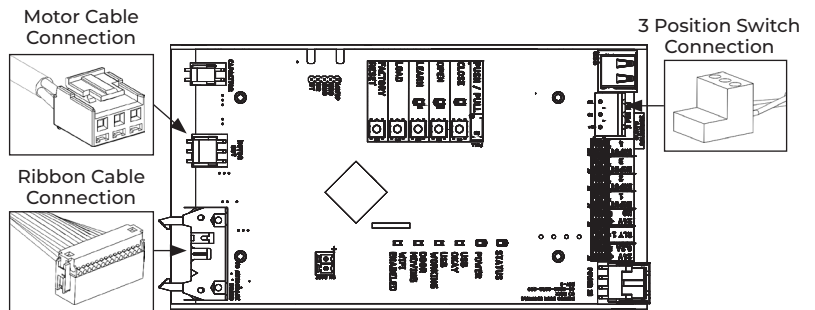

Fig. 14
5. Connect the motor cable and ribbon cable from the operator body to the power supply control board. (Fig. 14)
6. Connect the 3-position switch to the power supply. (Fig. 14).